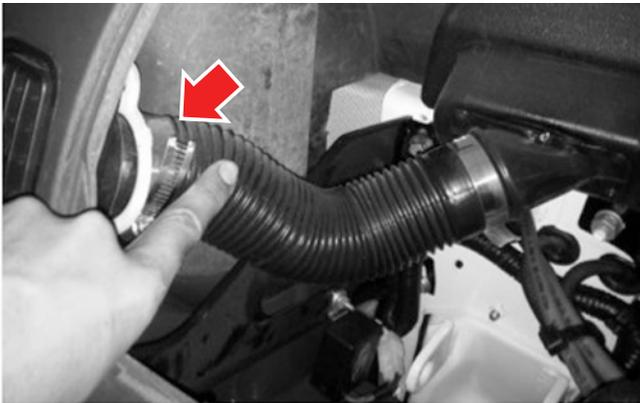

Figure 10-1
1. Disconnect the ducting at the vent end on both LH and RH sides (see Figure 10-1).